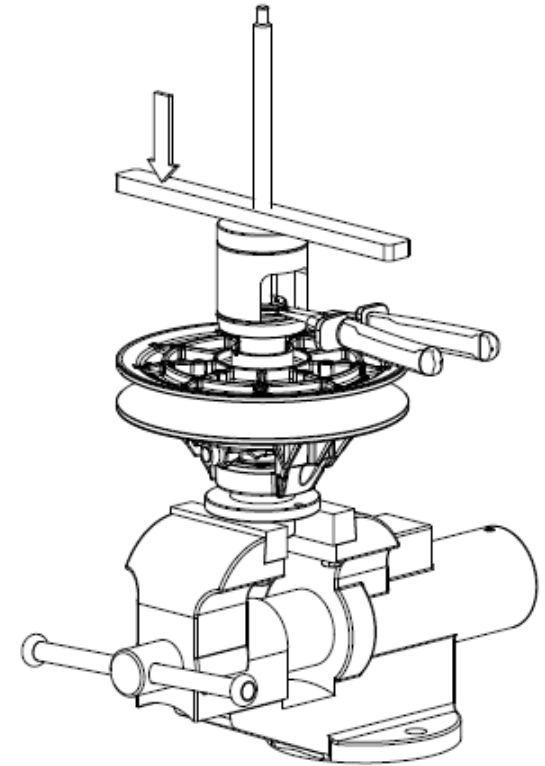
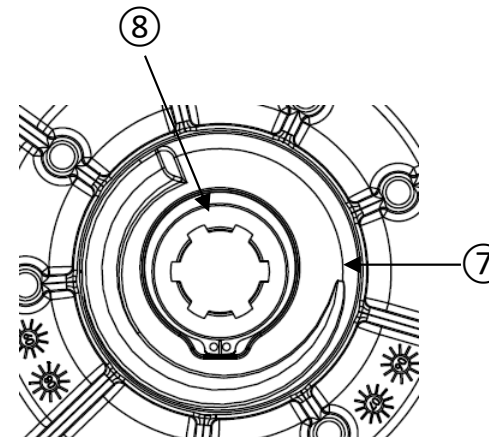

Figure 31
Figure 32
- Install the pulley on the disassembly tool as shown in figure 31.
- Insert the spring ⑥ in the sliding sheave ②.
- Put the spring seat ⑦ on the spring ⑥ and turn it clockwise until it comes to a stop in rotation; maintain the spring ⑥ by hand during the operation.
- Put the external retaining ring ⑧ on the spring seat ⑦.
- Make sure that the external retaining ring ⑧ is in the notch made for that purpose (figure 32).
- With the compression tool, lower the spring ⑥ and spring seat ⑦ until they clear the retaining ring groove in the shaft.
- Install the external retaining ring ⑧.